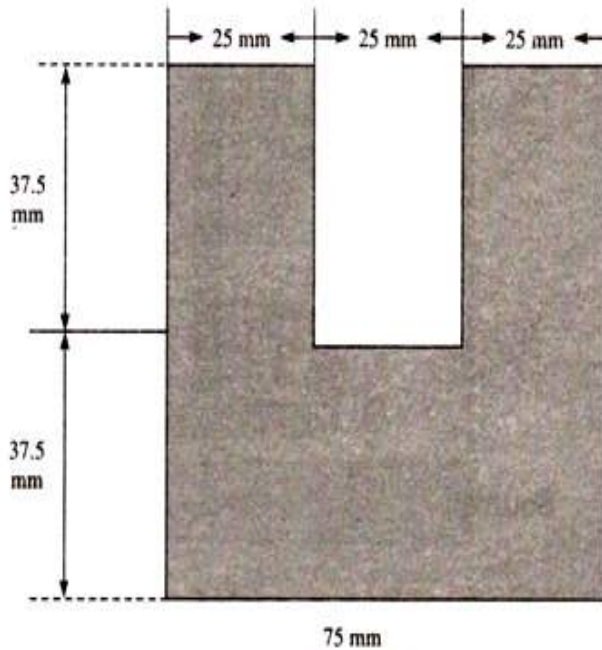

Figure 2
4. The beam section shown in Figure 2, is subjected to a shear force of 35 kN. Sketch the shear stress distribution for the section.